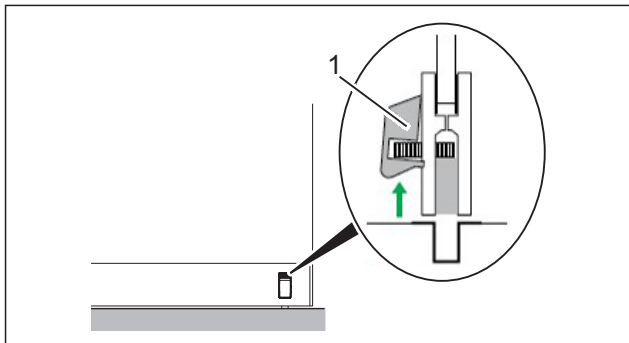

Fig. 8 Unlocking the face-mounted slide bolt
2. Pull up both face-mounted slide bolts (Fig. 8/1) on the panel using your foot or raise it with your hand.